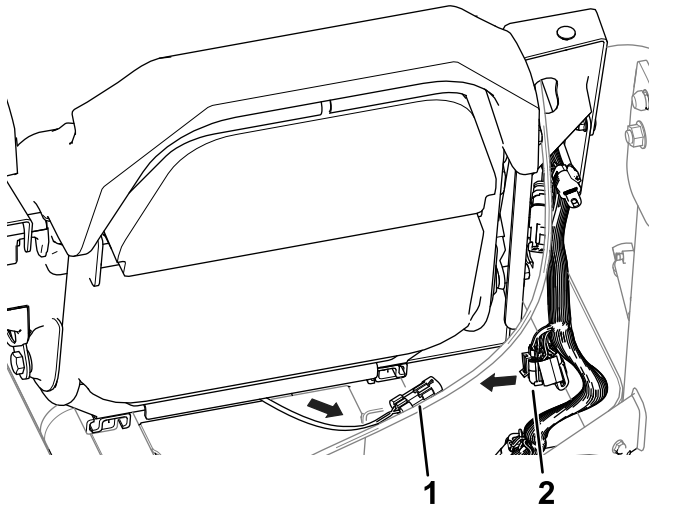

Figure 2
1. Route the seat-switch harness between the seat and seat base and towards the machine wire harness (Figure 2).